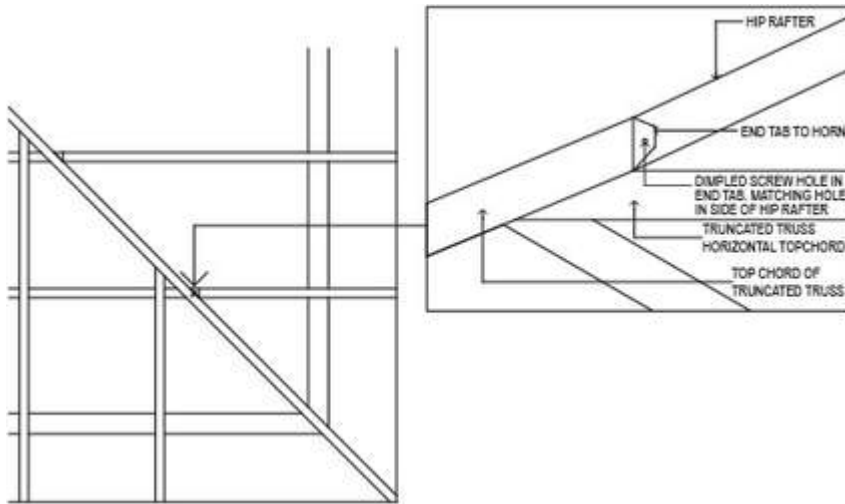

Figure 7.26 Boxed hip rafter
Step 10: Creeper rafters are supported by the hip rafter and the external wall. They are generally short rafters near the corner of the building. Ensure sufficient back span is provided to give the installed rafter sufficient strength. Mark the overhang length on the creeper rafters as per the jack rafters. Install the creeper rafters in the locations shown on the layout drawing fixing to the creeper rafter and the wall top plates as shown in **Figures 7.40** to **7.43**. Fix creeper rafter to hip rafter as shown in **Figures 7.26** and **7.27**, **7.32**, **7.42** to **7.49**, and **7.53**.